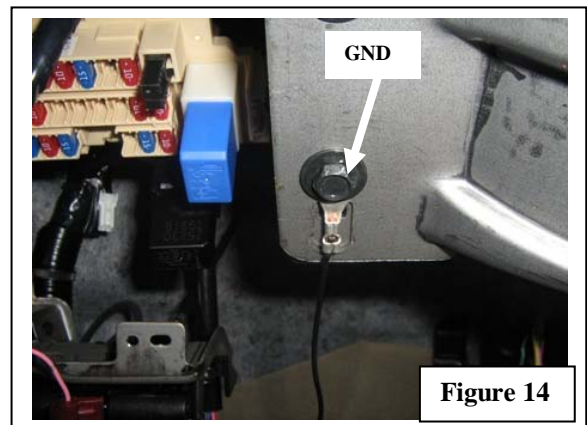

Figure 14
3. Apply the **Black Ground Wire** from the Main Harness to the Vehicle Ground Point behind removed lower dash panel. **Figure 14**